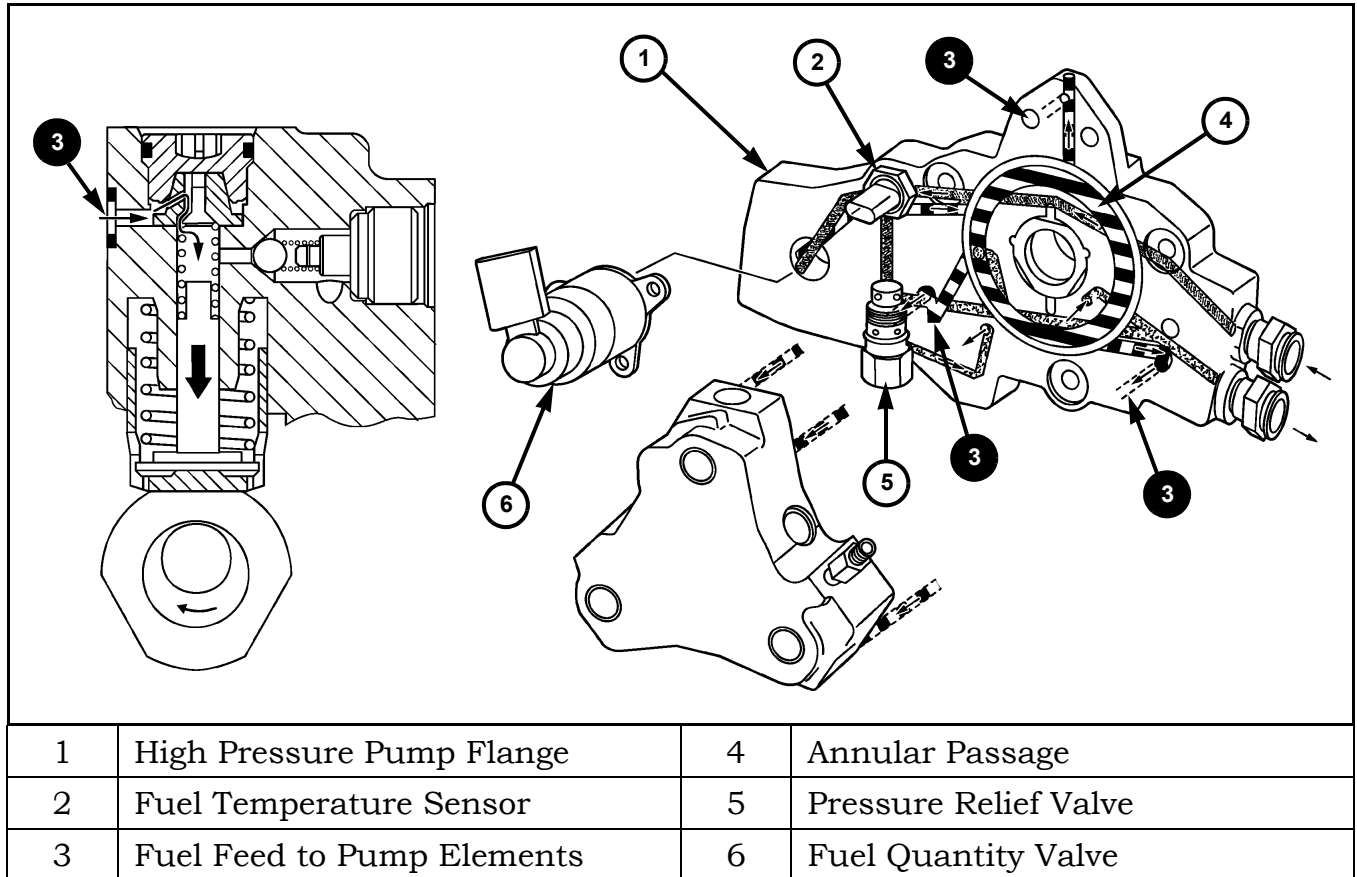

Figure 173 Fuel Quantity Valve Circuit
Refer to Figure 173 for the function in part load range. The fuel delivered by the electric fuel pump flows into the high pressure pump flange (1) and is passed from there through the fuel temperature sensor (2) to the fuel quantity valve (6) and to the fuel pressure relief valve (5).